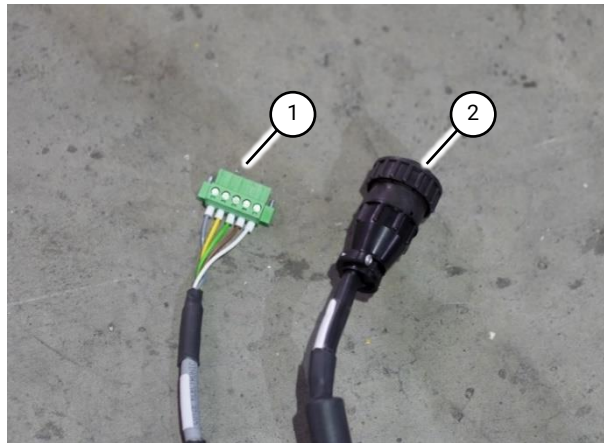

Fig 27 Plasma source connections
- 1.1 Serial connection for Hypertherm Powermax plasma sources only (Fig 27 (1)).
- 1.2 14 pin CPC connector which suits most mechanised plasma systems (Fig 27 (2)). For further information contact Swift-Cut Automation.